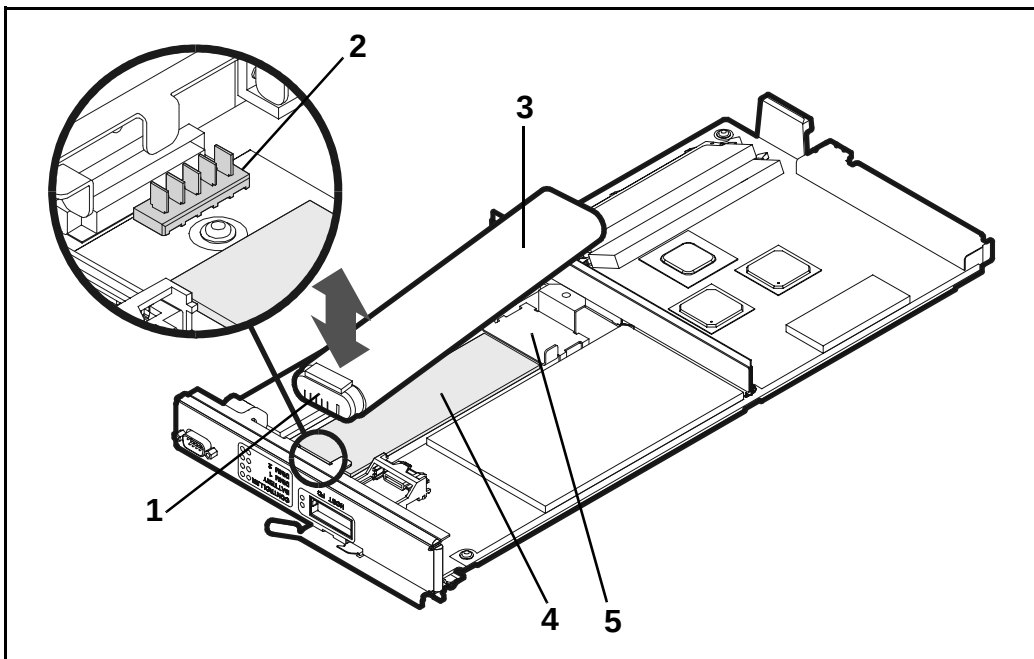

Figure 37 Connecting an Array Controller Battery
4. Lift the battery connector (Figure 37, 1) off of the battery terminal (Figure 37, 2).
5. Lift the battery (Figure 37, 3) off of the array controller card.
1. Seat the battery connector (Figure 37, 1) on the battery terminal (2).
2. Lay the battery (Figure 37, 3) on the foam pad (4) and in the battery bracket (5).